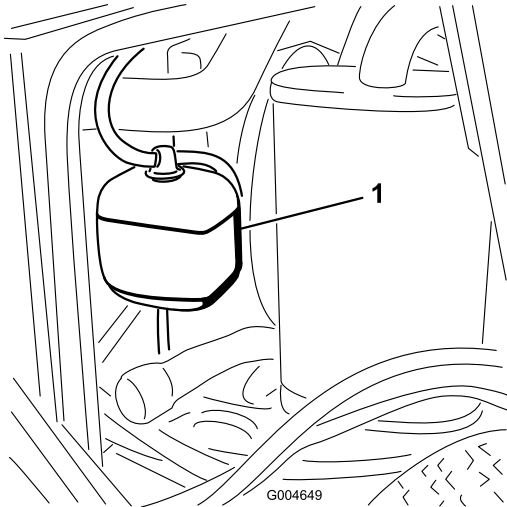

Figure 43
1. Check the level of the coolant in the expansion tank (Figure 43). The coolant level should be between the marks on the side of the tank.